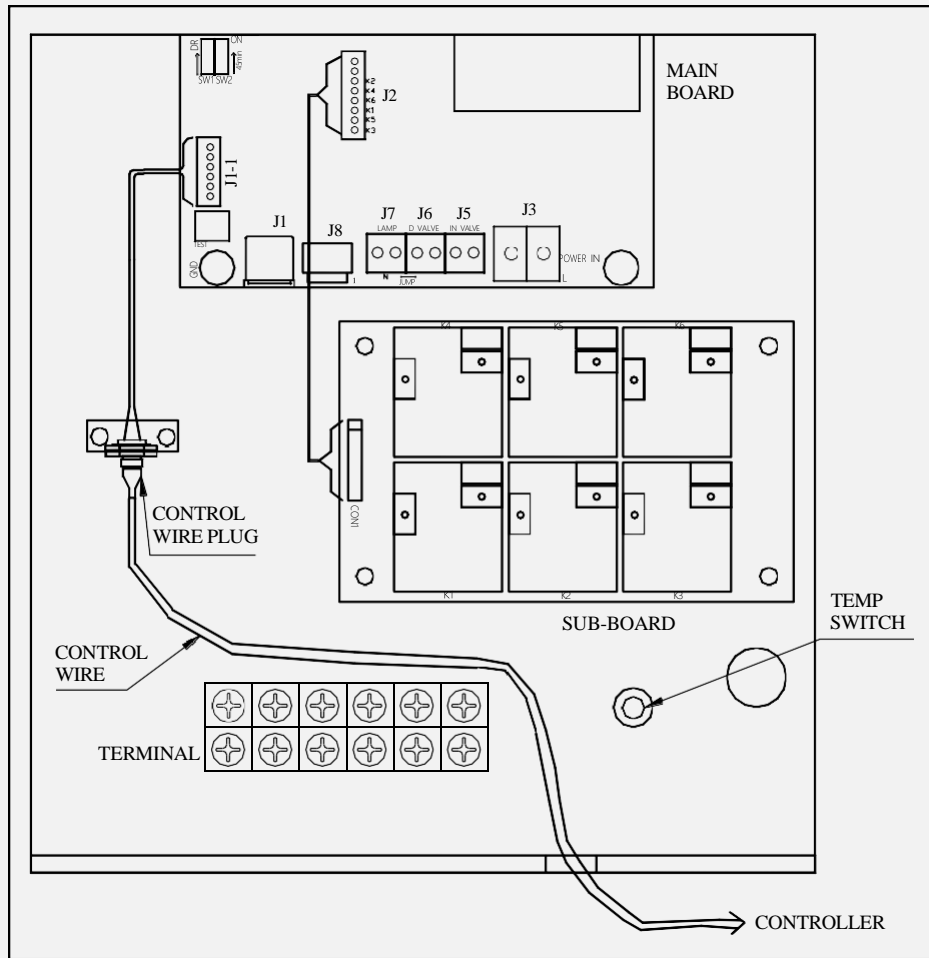

Figure 8
- A manual resetting 110C temperature control switch is installed in the steam generator for over-heat protection. If temperature of inner tank exceeds 110C accidentally, the switch will automatically disconnect power supply to main-board. In this case, it is necessary to disconnect the power supply to steam generator, and then carefully check heating elements, relay on sub-board and water supply pipeline after steam generator completely cooling-down. The temperature switch could only be manually reset after the fault has been located and solved. The temperature control switch is as shown in figure 8.
Take off the back cover of the generator, pull the control wire at the back of the controller through a conduit and then insert it into the hole at the back of the generator case and connect to the plug. (Refer to figure 8).